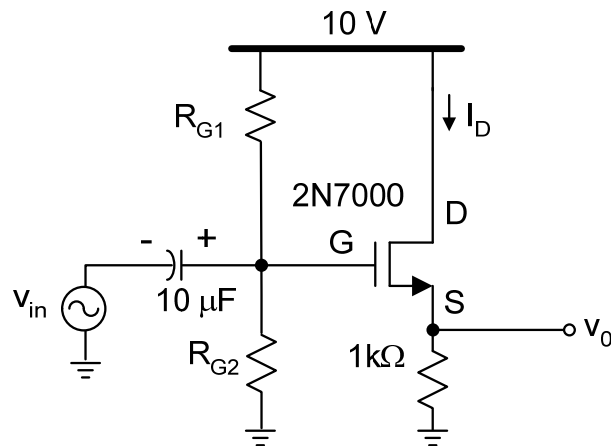

Fig. 4. Common-drain configuration
8. For the circuit in Fig. 4, and using the parameters you extracted in the previous lab for the 2N7000, find the values of drain current and biasing points such that the magnitude of the small signal voltage gain is greater than -2dB. Select the resistors lumped to the gate such that  $R_{B1}||R_{B2} > 100\text{ k}\Omega$ . Check first the operating point of your design, and verify that the voltage gain is approximately given by  $g_m(R_L||1/g_m)$ . Compute the values for the input impedance, and output impedance.
9. Construct the circuit in Fig. 4 in Pspice and compare the simulated results (input impedance, output impedance and voltage gain) and hand calculations. Explain the differences if any.
10. Obtain the frequency response of Fig. 4, and find the low frequency and high frequency poles.
10. Construct the circuit shown in Fig. 4; use the resistor values computed in the pre-lab and be sure you verify these values using Spice simulations. You will probably need to use a potentiometer in conjunction with gate resistors as described earlier to achieve the required bias.